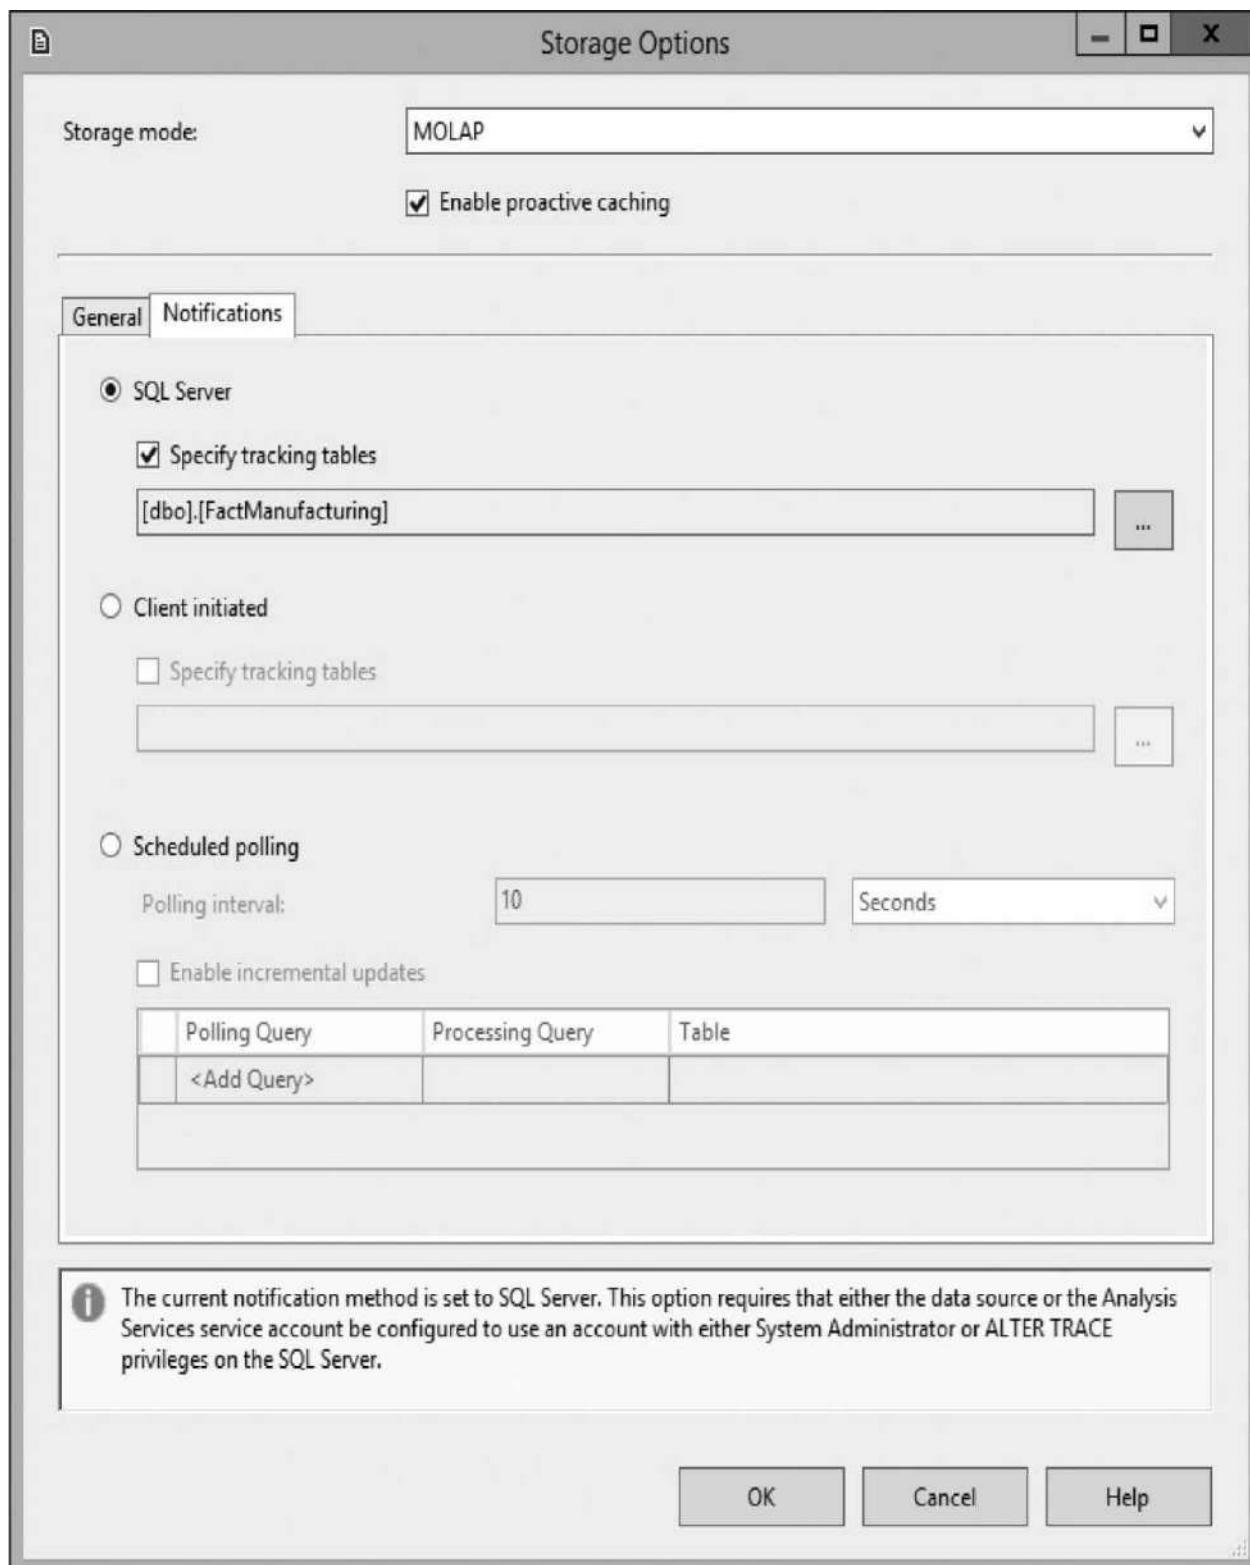

Figure 12-33 The Notifications tab of the Storage Options dialog box
13. Click OK to exit the Relational Objects dialog box. The Notifications tab of the Storage Options dialog box should appear, as shown in Figure 12-33.